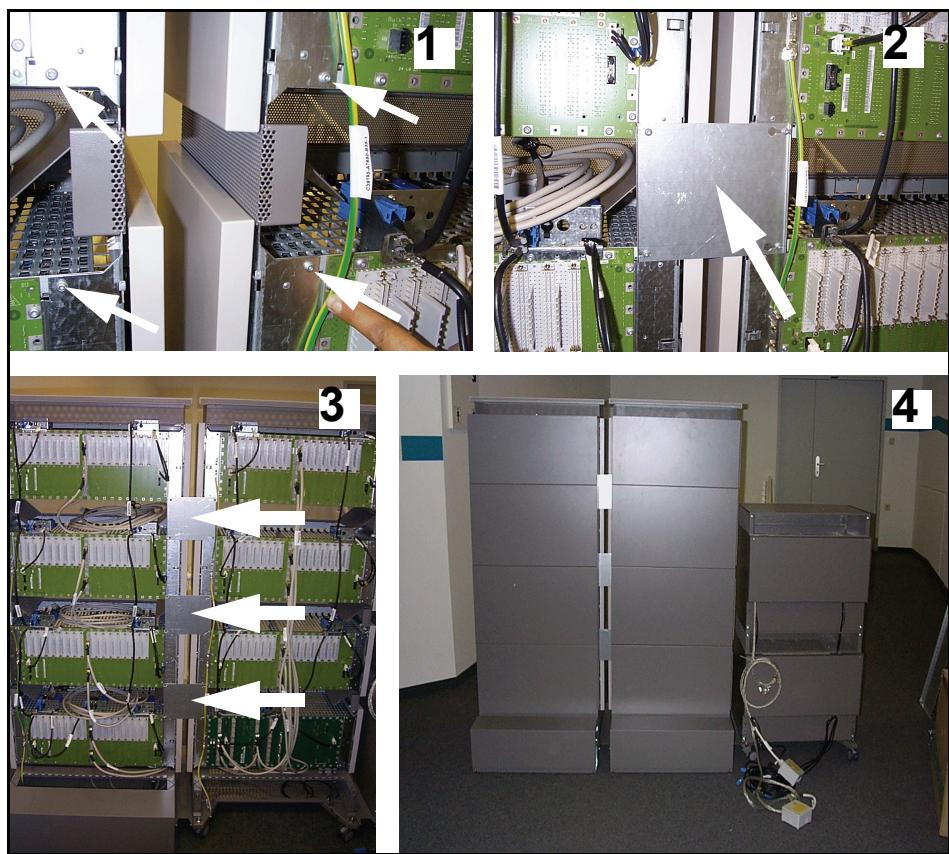

Figure 4 Installing the ground straps between the cabinets
1. Removing the four screws shown in (1) of Figure 4.
2. Insert the supplied ground straps (2) and tighten the screws.
3. Depending on the system configuration, attach additional ground straps between the two stacks and the power (3) and (4).